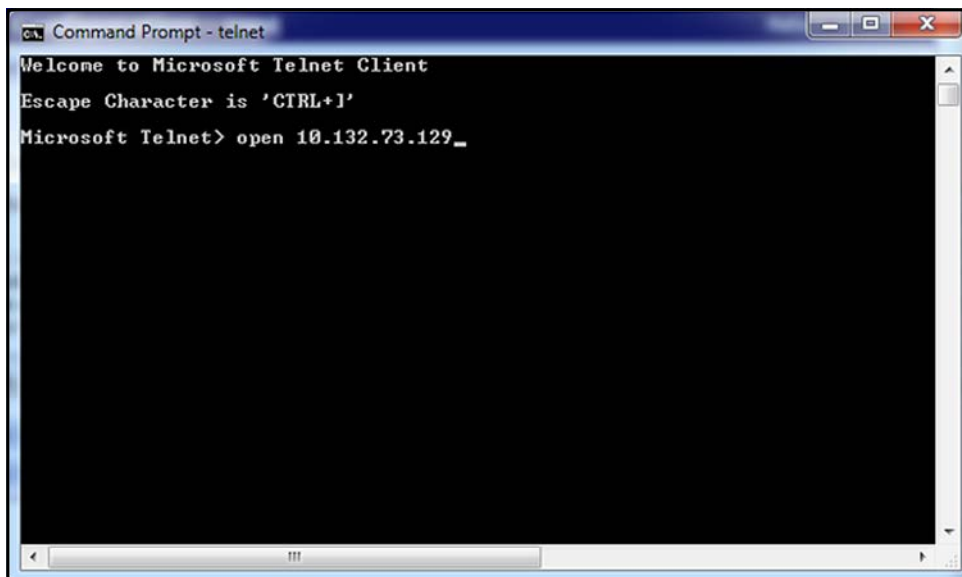

Figure 116: Telnet OPEN Command
2. To connect to the module, use the OPEN command with the IP address of the module (see *Figure 116* below).